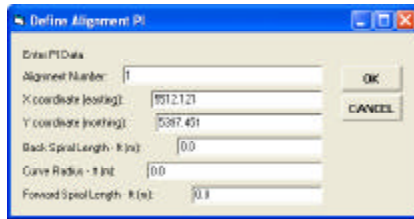

Figure 9
3. Enter the appropriate values for the various PI parameters shown in Figure 9, click at the:
All of the parameters shown in Figure 9 can be edited or altered by the user. None of the parameters are for display purposes only. Whatever values are entered in Figure 9 will have a direct effect on the definition of the PI.